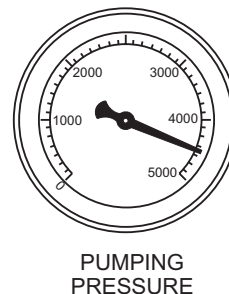

Figure 55. Pumping Pressure Gauge
3. The **pumping pressure gauge** (Figure 55) should read approximately 3,100–3,200 PSI.